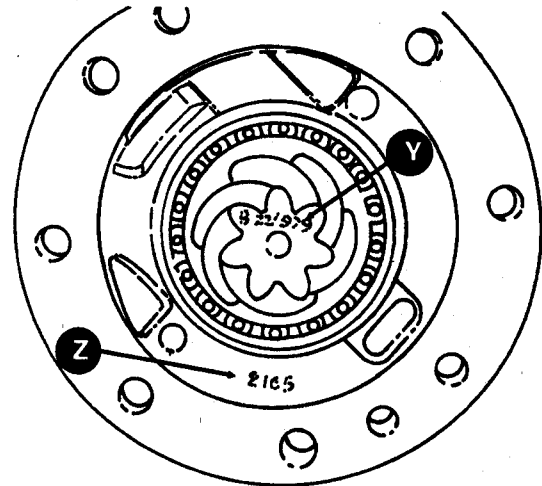

Figure 13.
15. Note measurement Y etched on end of pinion face (e.g.) 97.9 (any other marking, such as B22, is the bevel gear and pinion pairing number), and measurement Z stamped on inner face of pinion housing (Figure 13).